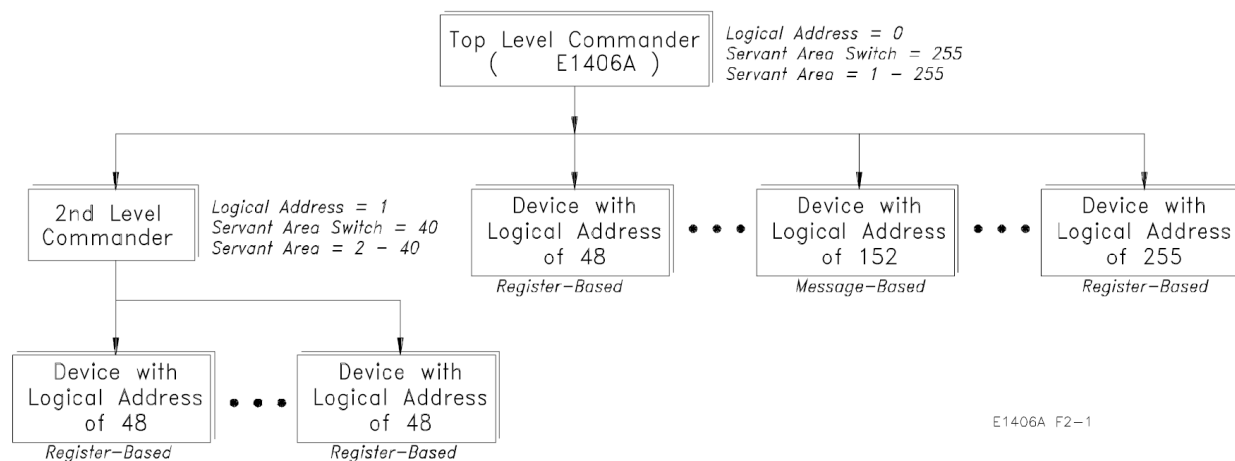

Figure 2-1 Example of Commander/Servant Hierarchy
During the configuration sequence, the resource manager assigns servant modules to a commander module based on the servants’ logical addresses and the commander’s servant area. The concept of the servant area is shown in Figure 2-1. The C-Size VXIbus Systems Configuration Guide shows how to set the command module’s servant area.
- If within a given commander’s servant area (Figure 2-1) there is another lower-level commander(s) (logical address 1), the given commander will control the lower-level commander. However, all modules within the servant area of the lower-level commander (logical addresses 2 - 41) will be controlled by the lower-level commander.
- The command module will always be the commander for IBASIC even if IBASIC's logical address (240) is outside the module's servant area. There can be multiple IBASICs in the same system since each is a servant to its respective command module. Note that there are no VXIbus registers for IBASIC.